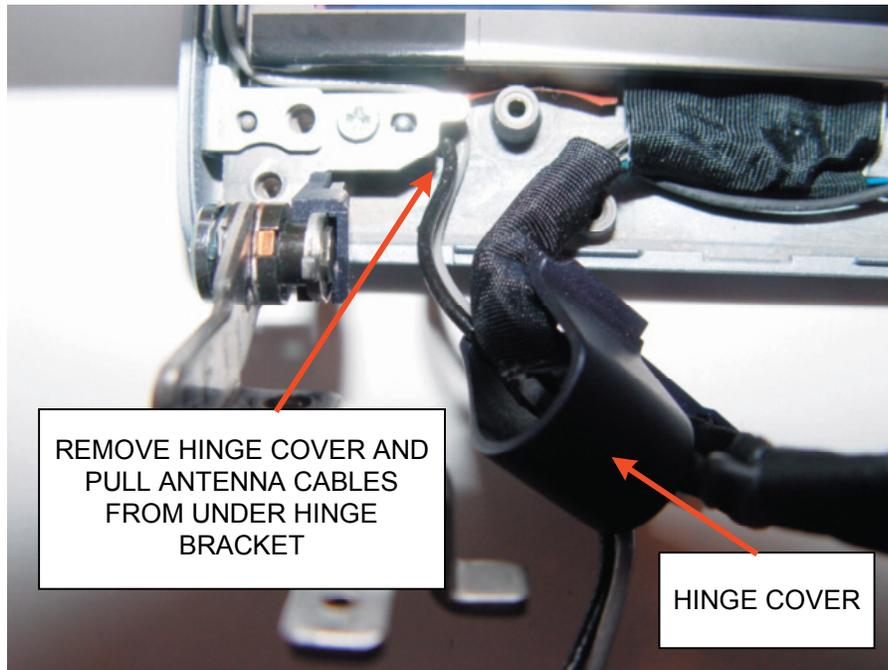

FIGURE 2-27 LCD PANEL REMOVAL (step 3)
Step 3: Lift the hinge cover and move the wireless LAN antenna cables from under the hinge bracket as illustrated in Figure 2-27. The panel can now be lifted out.